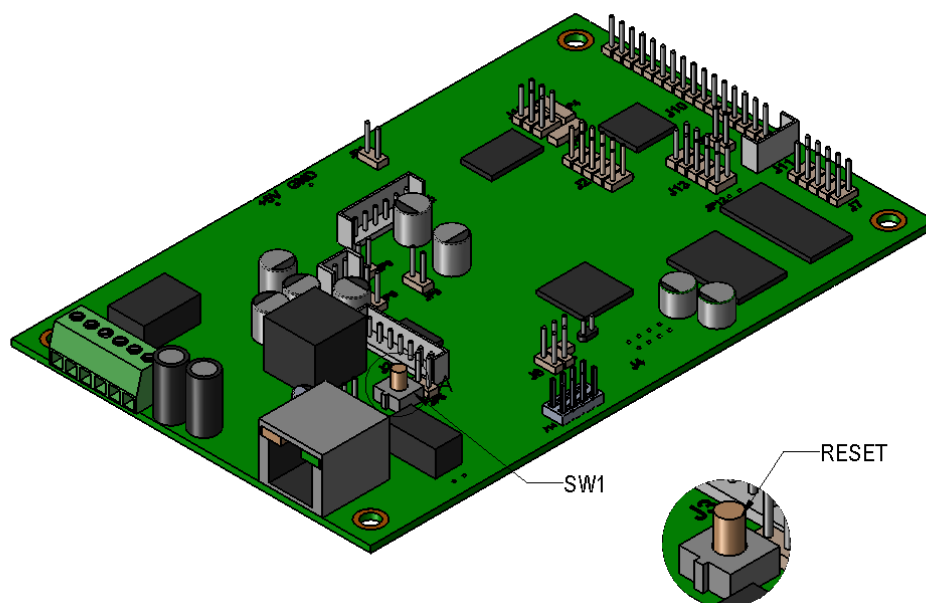

Figure 8 - RESET Switch
- The square, green **Link** light above the Ethernet port indicates that the network connection has been established (see Figure 8). The Link light changes color to confirm the auto-negotiated baud rate: